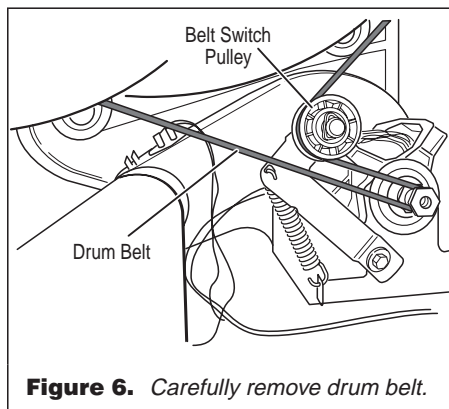

Figure 6. Carefully remove drum belt.
3. Check the belt switch and motor. Access the belt switch and motor by removing the back panel. See page 11. Carefully remove the drum belt from the spring-loaded belt switch pulley, gently letting the belt switch pulley down. See figure 6.